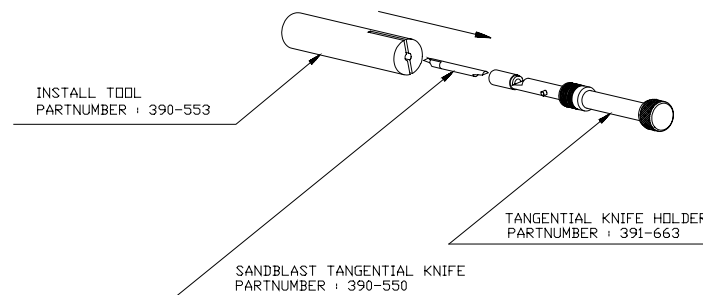

FIGURE 1-9:
- As shown in Figure 1-9, insert the knife blade into the knife holder. Make sure the knife blade is secure inside the holder. The blade is secure when it cannot be removed manually from the knife holder. To remove the blade, push at the back of the blade with a screwdriver. The blade will pop out of its holder.